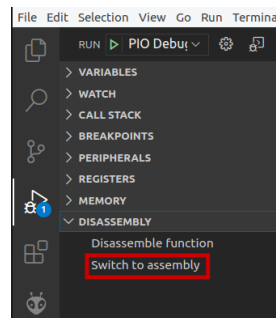
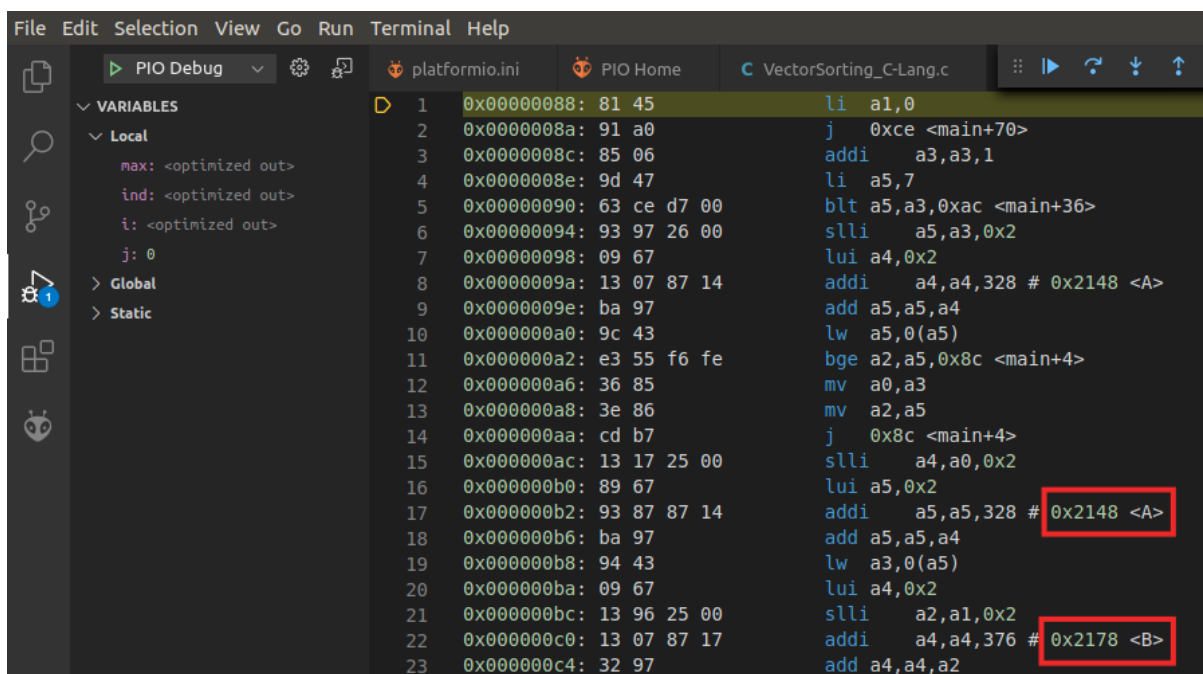

Figure 64. Switch to assembly
Figure 74. Address where A and B are stored in memory.
6. You can view the execution of the program in C as above or you can view the execution of the assembly program generated by the compiler, by clicking on Switch to assembly highlighted in Figure 64.
Note that you can easily find out the address where vectors A and B are stored in memory by switching to assembly, as explained in Figure 64, and analysing any of the instructions that access these vectors (Figure 74). As you see in the figure, in most cases the comments provide this information; however, you could also step up to those instructions and see the value that is stored in the register.